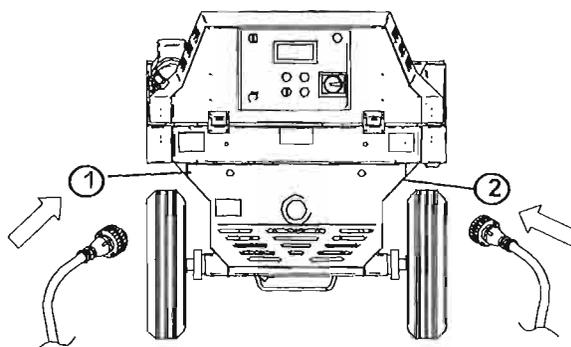

FIG. 6
10.1 ELECTRICAL CONNECTION (see fig.6)
Connect the plastering machine plug to the mains (fig. 6, ref. 1). The 2P+T single phase 3P+T 3-phase and socket for remote control 3P+T YELLOW must be mobile type IP67.
If the optional mixer is used, connect it to the plastering machine socket (fig. 6, ref. 2)